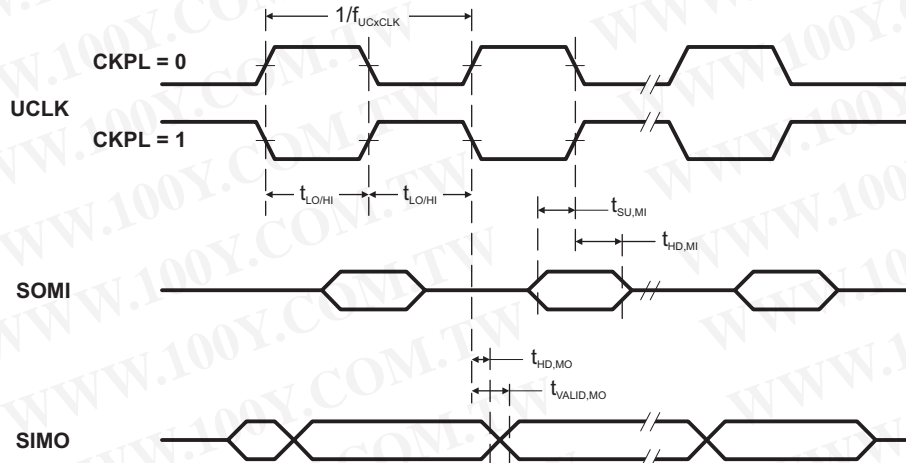
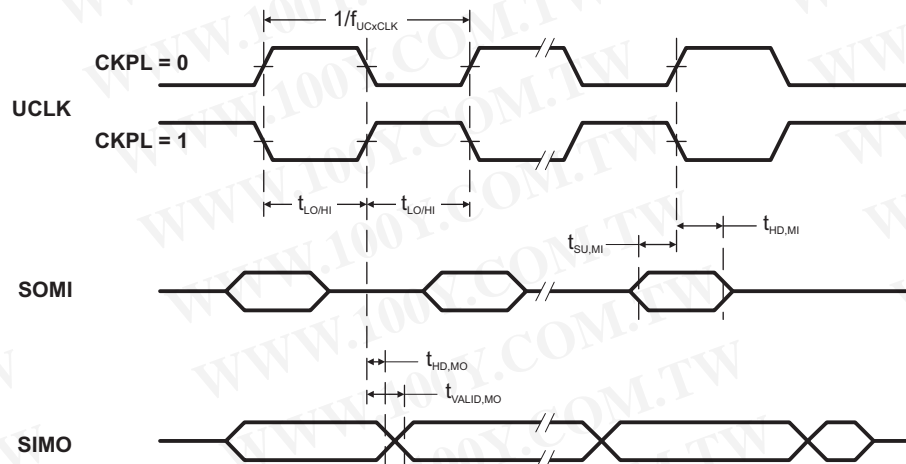

Figure 11. SPI Master Mode, CKPH = 0
Figure 12. SPI Master Mode, CKPH = 1
(see Note ⁽¹⁾, Figure 11 and Figure 12)
- (2) Specifies the time to drive the next valid data to the SIMO output after the output changing UCLK clock edge. Refer to the timing diagrams in Figure 11 and Figure 12.
- (3) Specifies how long data on the SIMO output is valid after the output changing UCLK clock edge. Negative values indicate that the data on the SIMO output can become invalid before the output changing clock edge observed on UCLK. Refer to the timing diagrams in Figure 11 and Figure 12.
- (1) $f_{UCxCLK} = 1/2 \times t_{LO/Hi}$ with $t_{LO/Hi} \geq \max(t_{VALID,MO(Master)} + t_{SU,SI(USCI)}, t_{SU,MI(Master)} + t_{VALID,SO(USCI)})$. For the master's parameters $t_{SU,MI(Master)}$ and $t_{VALID,MO(Master)}$, see the SPI parameters of the attached slave.
- (2) Specifies the time to drive the next valid data to the SOMI output after the output changing UCLK clock edge. Refer to the timing diagrams in Figure 11 and Figure 12.
- (3) Specifies how long data on the SOMI output is valid after the output changing UCLK clock edge. Refer to the timing diagrams in Figure 11 and Figure 12.